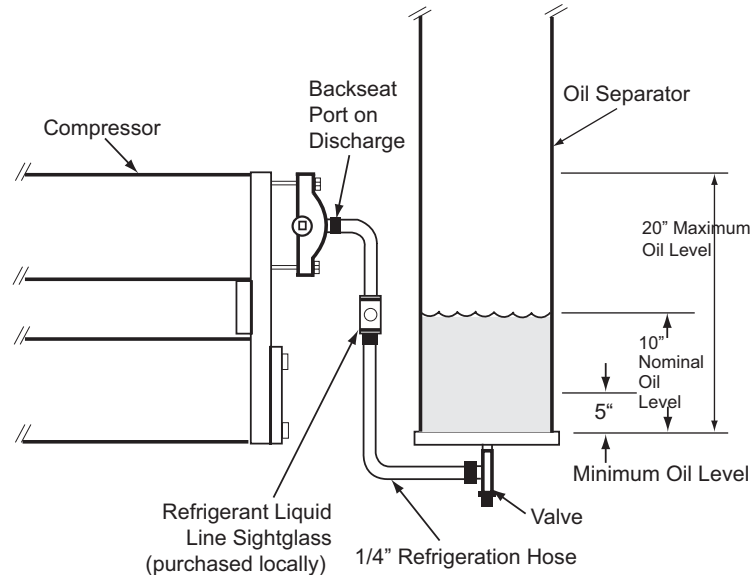

Figure 39 System Oil Level Specifications
Follow the steps listed below and refer to the notes listed in Figure 39.
2. Attach the hoses and sight glass to the oil separator charging Schrader valve and the compressor discharge service valve, as shown in Figure 39. Remove non-condensibles.